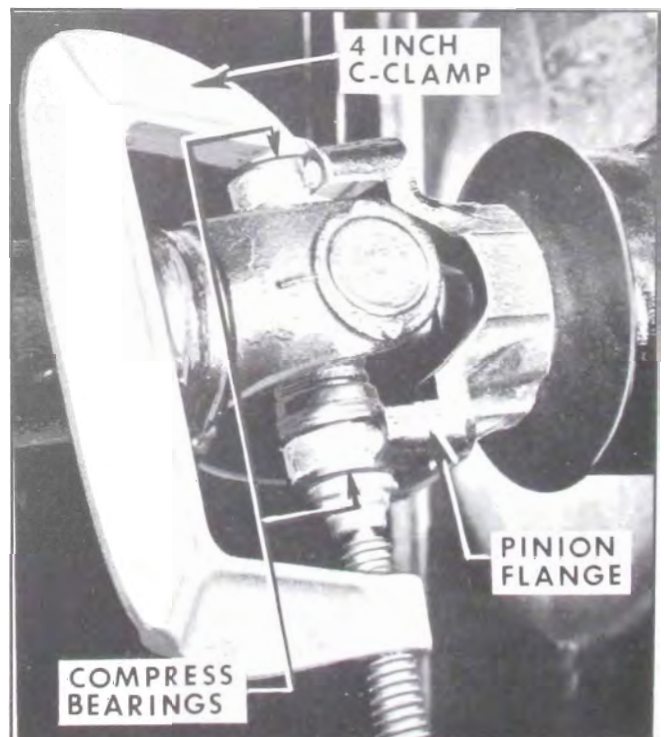

Figure 6-44—Using C-Clamp to Install a U-Joint
2. Make certain rear universal joint mark is aligned with the pinion flange mark, then install U-bolts, lock plates and nuts. The bearing and spider assembly must be started straight and seated in the companion flange so that no burr is formed by the snap rings gouging the locating surfaces of the companion flange when entering. Use 4 in. C-clamp if necessary to compress bearings so that snap rings do not contact companion flange bearing surface. See Figure 6-44. Replace the flange if it has been